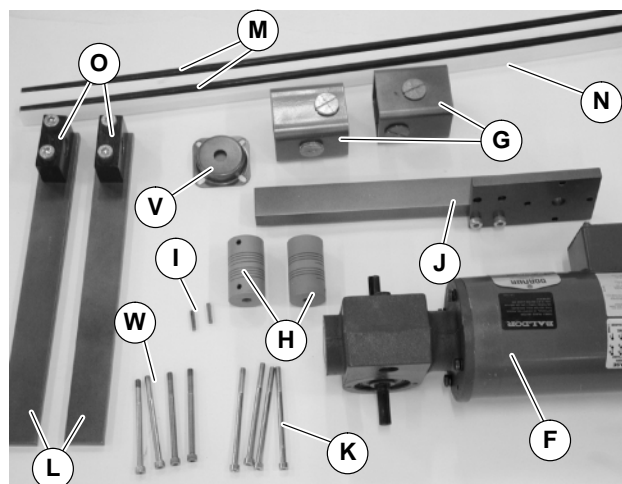
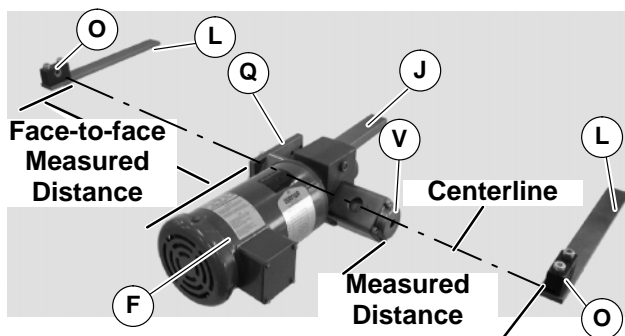

Figure 11
Figure 18
1. Gather components (Figure 11).
NOTE: Mounting holes are not provided. Ensure that gearmotor assembly (J of Figure 18) and bearing support assembly (L) are parallel and center-line of coupling matches center-line of bearing block (O).
8. Attach gearmotor assembly (J of Figure 18) and bearing support assemblies (L) to mounting surface.
9. Measure distances between motor mounting plate (Q) and bearing block (O) and from shaft cover (V) to bearing block (O).
10. Cut hex shafts (M of Figure 11) to measured distances (Figure 18) plus 54 mm on both sides of gearmotor assembly.